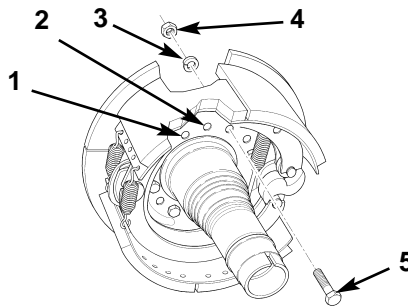

Figure 10. Enlarging Hole in Brake Spider.
9. Remove two locknuts, (figure 10, item 4), washers (figure 10, item 3), and screws (figure 10, item 5) from top two holes in axle housing and brake spider (figure 10, item 1). Retain washers (figure 10, item 3) and discard locknuts (figure 10, item 4) and screws (figure 10, item 5).
10. Using 11/16 in. (17.5 mm) reamer, enlarge existing hole (figure 10, item 2) between top two holes in axle housing and brake spider (figure 10, item 1).